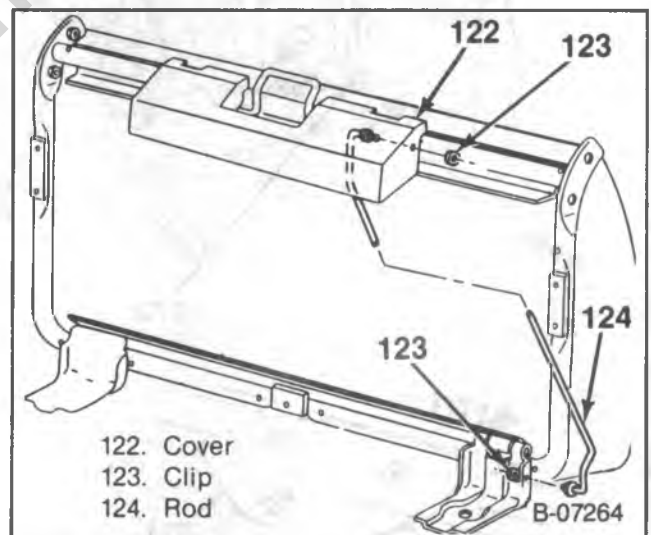

Figure 21 — Utility Vehicle Cover Rod
- ↔ **Remove or Disconnect (Figure 21)**
- 1. Actuator rod clip (123).
- 2. Actuator rod (124).
- ↔ **Install or Connect (Figure 21)**
- 1. Actuator rod (124).
- 2. Actuator rod clip (123).
Remove or Disconnect (Figures 21, 26 and 27)
Install or Connect (Figures 21, 26 and 27)